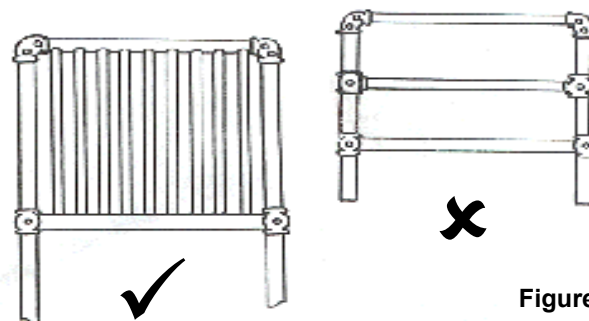

Figure 2
- Are designed to prevent users gaining a foothold which may assist them to climb onto the top rail. Any horizontal rails should be replaced with either vertical infill panels or solid panels. Refer to Figure 2.